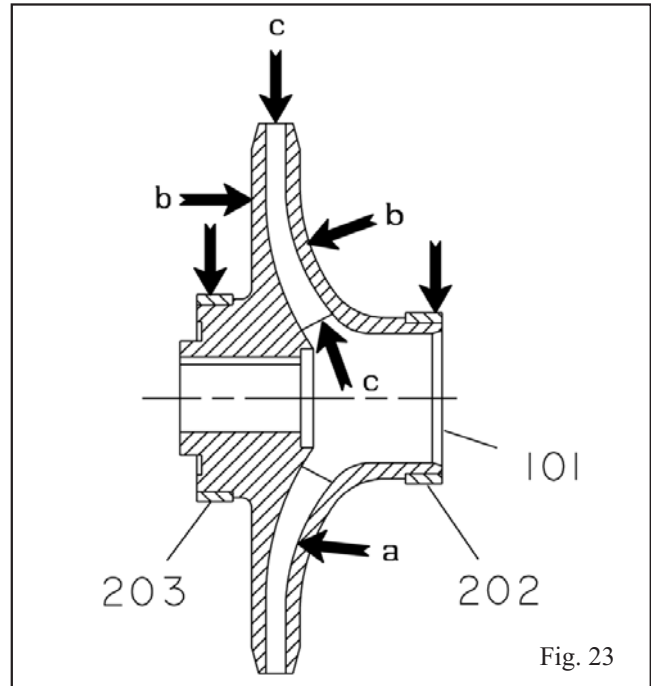

Fig. 23
1. Inspect impeller vanes for damage. Replace if grooved deeper than 1.6 mm ($\frac{1}{16}$ in.) or if worn evenly more than 0.8 mm ($\frac{1}{32}$ in.). (Area "a" in Fig. 23.)
2. Inspect shrouds for damage. Replace if worn or bent more than 0.8 mm ($\frac{1}{32}$ in.). (Area "b" in Fig. 23.)
3. Inspect leading and trailing edges of the vanes for pitting, and erosion or corrosion damage. Replace as in No. 1. (Area "c" in Fig. 23.)